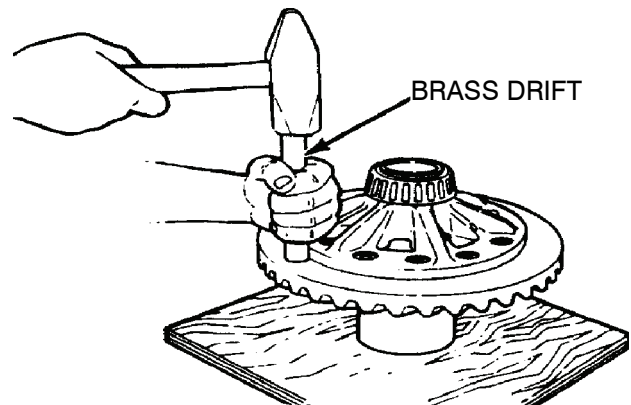

Figure 36. Removing Ring Gear From Case Half.
- (c) If a press is not available, put the assembly on a block of wood so that the teeth of the ring gear are away from you. The wood block must be larger than the gear and case assembly. Use a brass drift and a hammer to hit the ring gear at several points to separate the gear from the case. The wood block prevents damage to the ring gear when the gear is removed from the case. Figure 36.